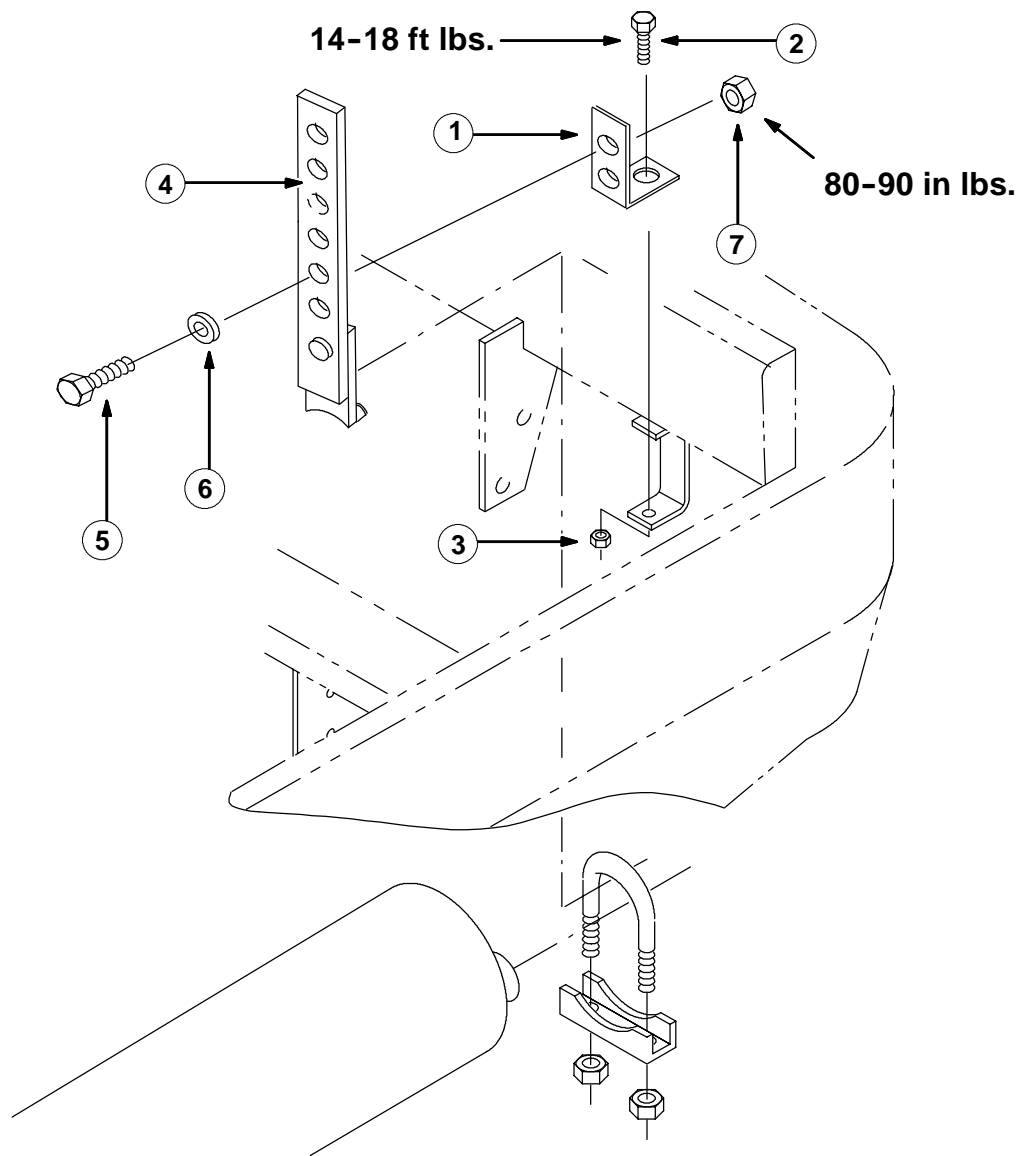

FIG. 1 - INSTALLATION OF MUFFLER BRACKET KIT 374677
(Refer to FIG. 1)
3. Mount the muffler hanger angle (1) to the machine frame with hex screw (2) and lock nut (3). Tighten the hex screw to 14-18 ft lbs. (Refer to FIG. 1)
4. Mount the muffler hanger strap (4) to the muffler with the set aside muffler clamp. (Refer to FIG. 1)
5. Set the muffler at the preferred height, and hold in place. (Refer to FIG. 1)
6. Connect the muffler hanger strap (4) to the muffler hanger angle (1) with the hex screw (5), flat washer (6), and lock nut (7). Tighten the hex screw to 80-90 in lbs. (Refer to FIG. 1)